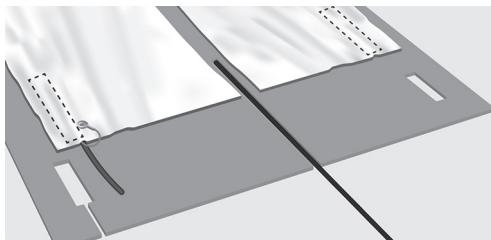

Fig. 8. Cutout in the underlayment
**8.** Once the heating mat or heating mats have been installed according to your drawing, it is time to make cutouts in the underlayment to make room for the joints in the heating mat (Fig. 8). In the start of the heating mat where the cold cable enters the heating mat, there is a bulge on the heating mat. Mark the placement of this on